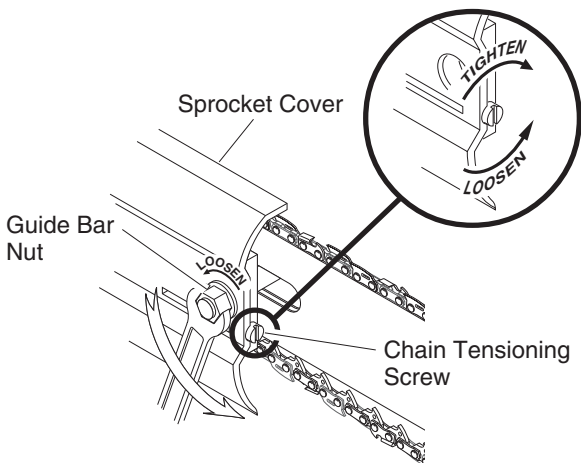

Figure 1 - Loosen and Remove Guide Bar Nut
2. Loosen the guide bar nut (see Figure 1).
3. Turn chain tensioning screw counter-clockwise to loosen chain (see Figure 1).
5. Remove sprocket cover (see Figure 1).